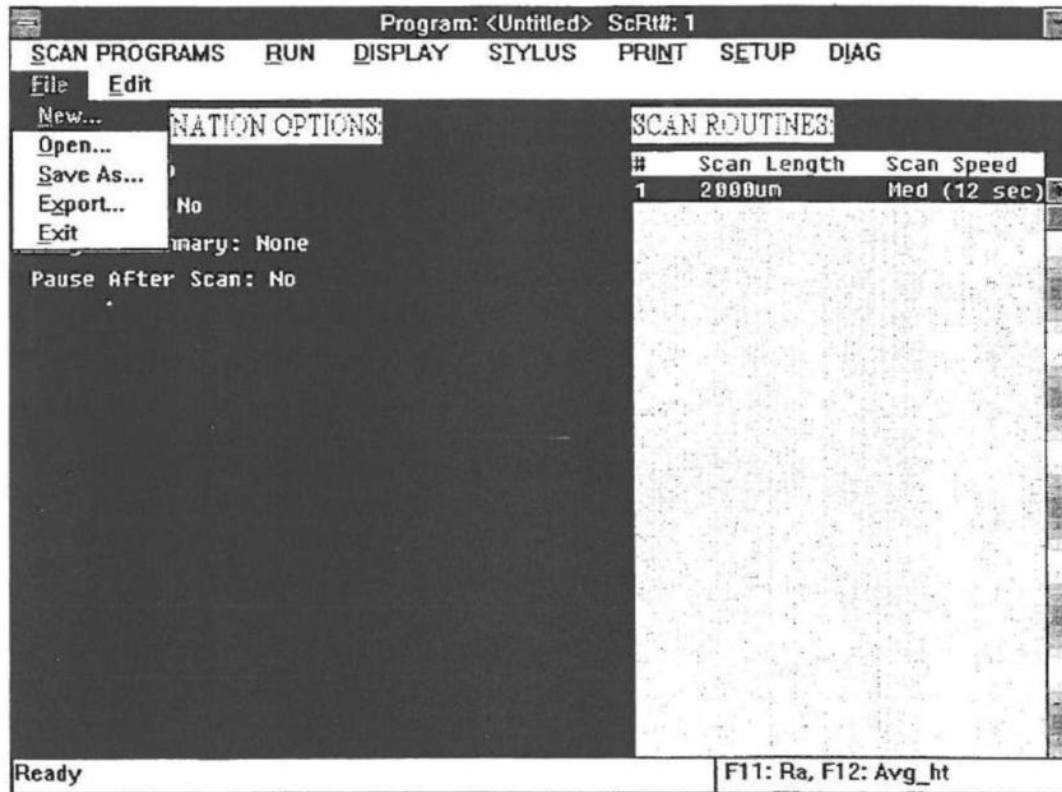

Figure 4-1. Creating A New Multi-Scan Program
2. Click-on "File" from the screen specific menu bar. The file menu will be displayed (see Figure 4-1).